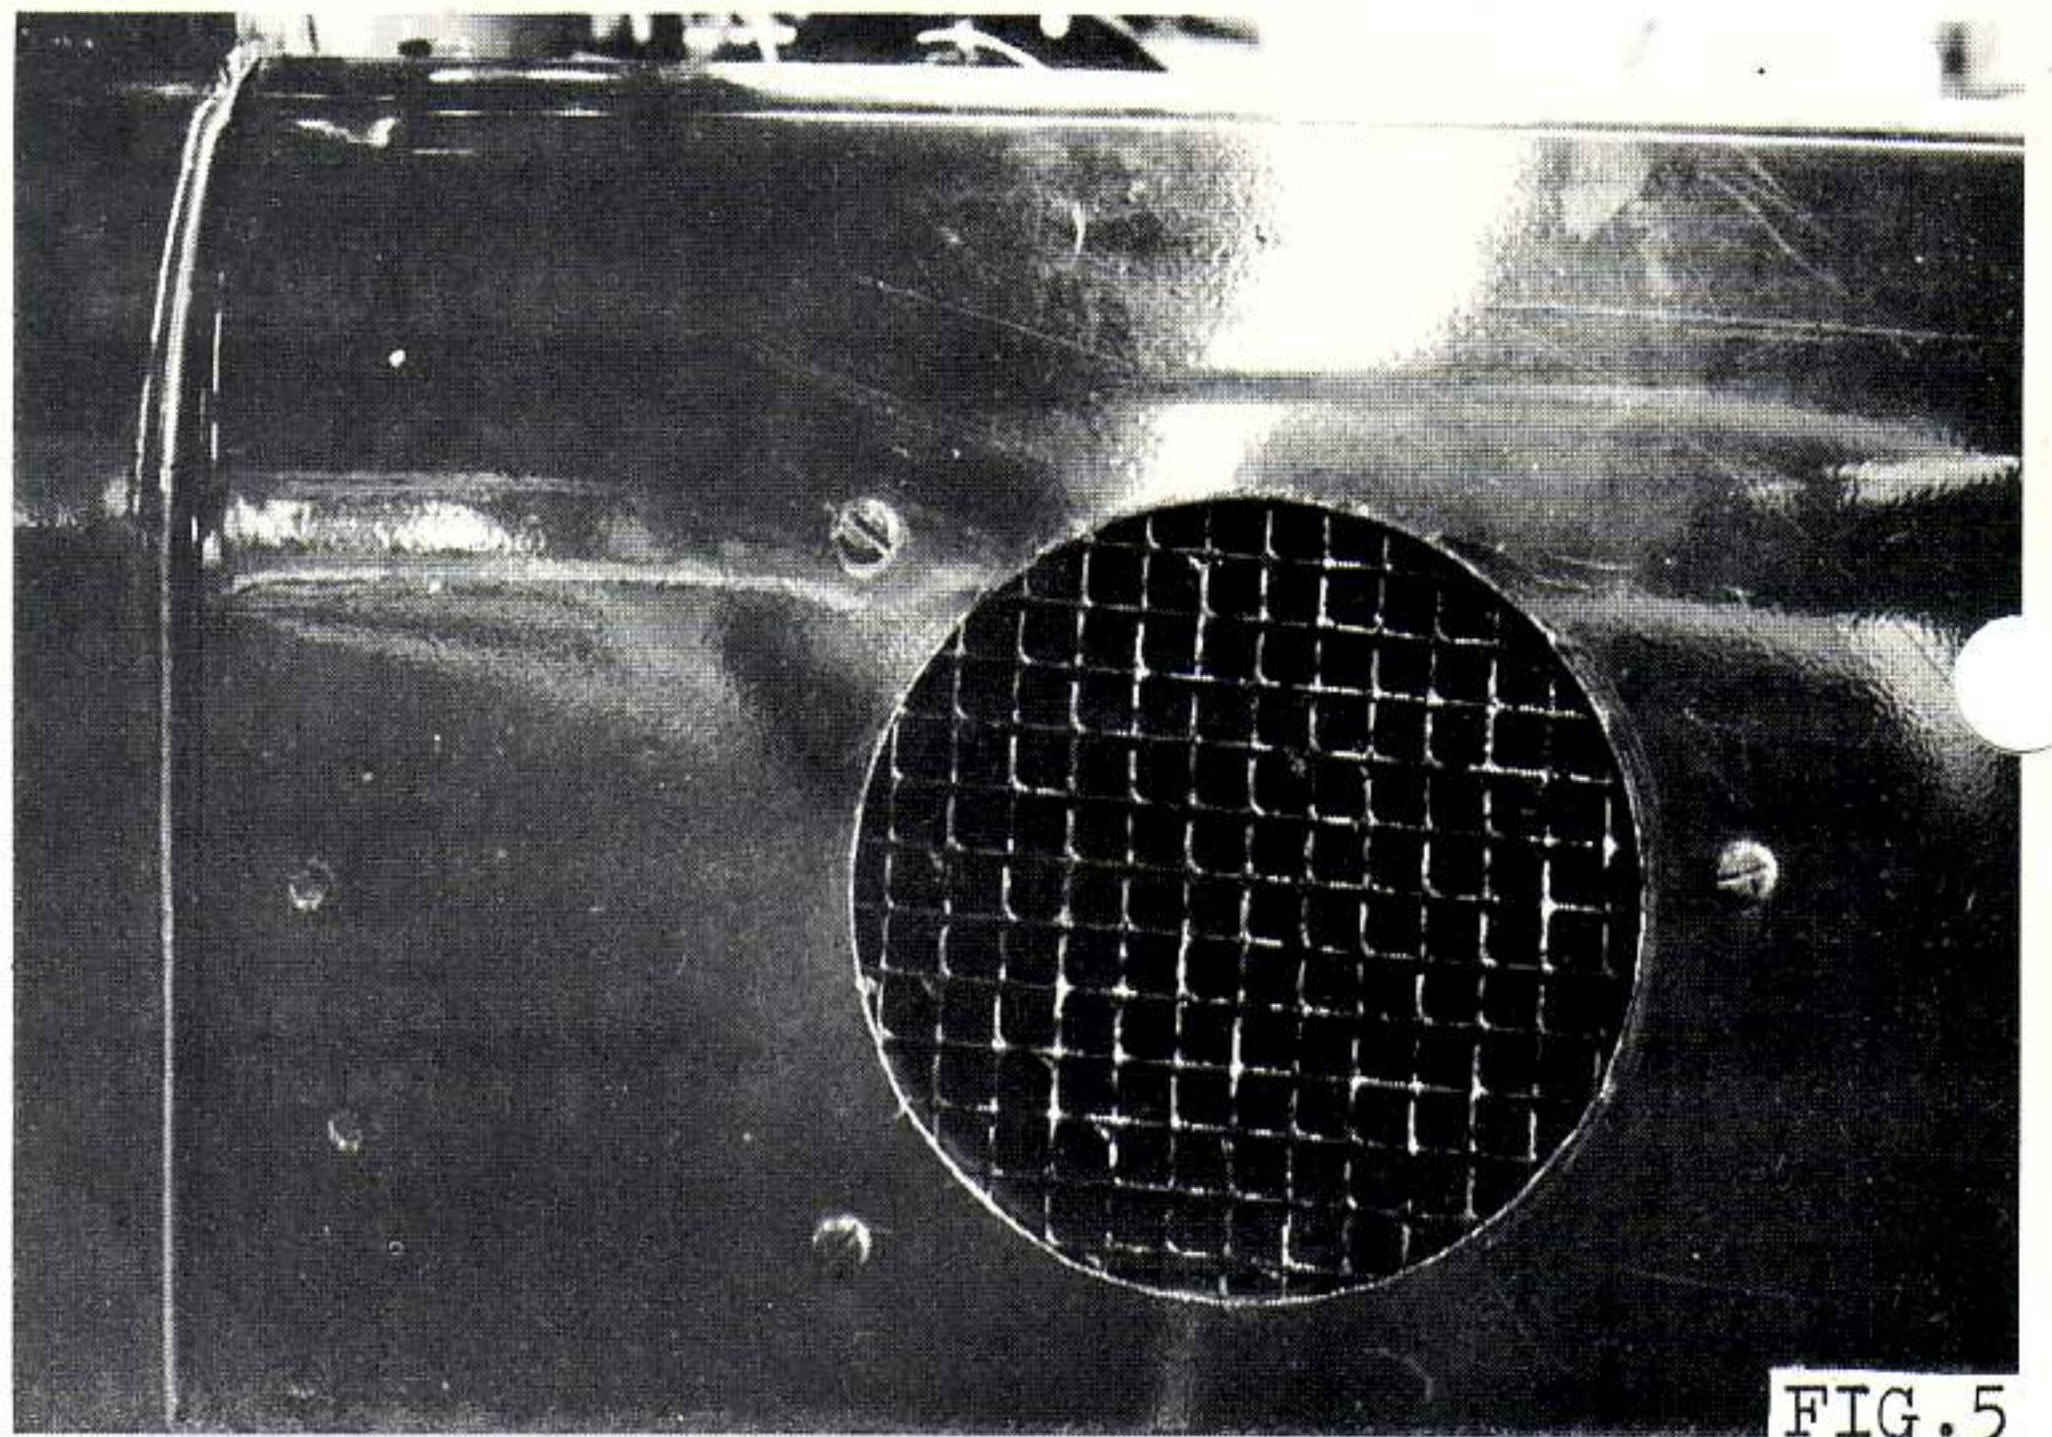

FIG. 5
9. On the inside of the fender, mount wire mesh screen and circular flange, locate with metal screws as shown fig. 5.